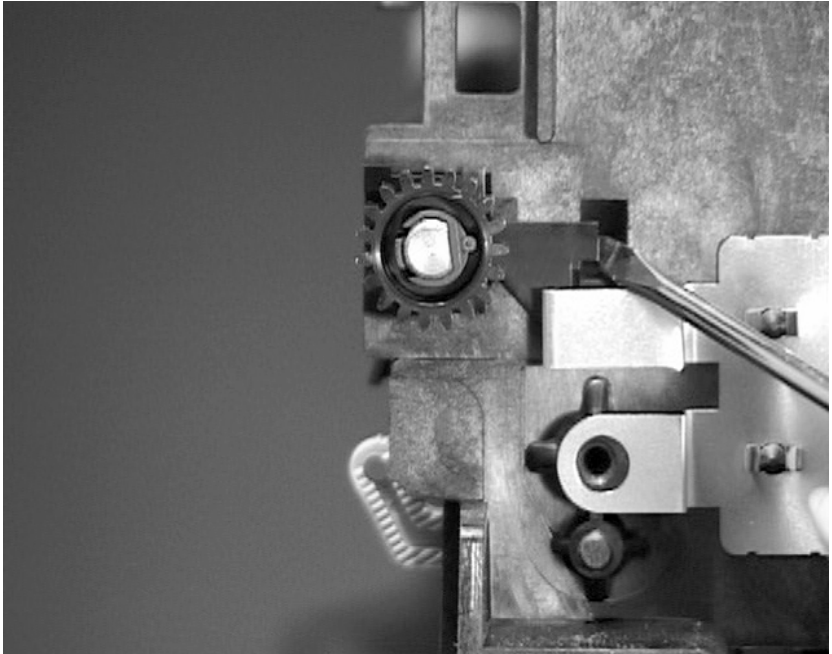

Figure 6-57 Right Delivery Roller Tab
- 2 Facing the left side of the printer, insert a flat-blade screwdriver as shown in Figure 6-57, and twist gently to release the tab on the right side of the Delivery Roller.